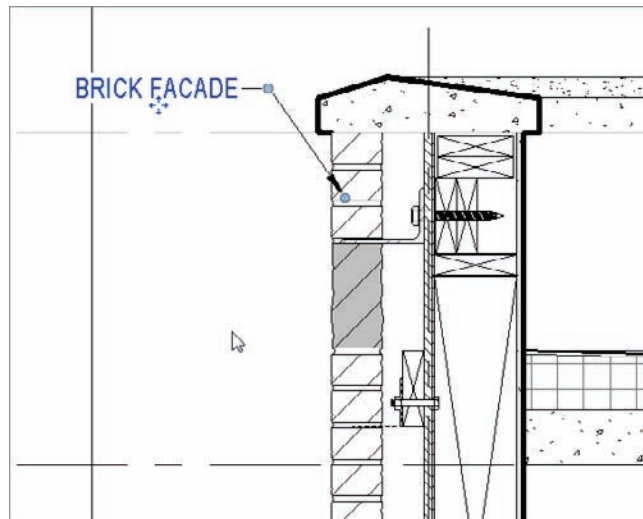

FIGURE 12.54 Placing the material tag
If you're confident, you can do this on your own. Your finished detail should look like the figure 12.54. If you would like some instruction, follow along:
8. When you place your cursor over the brick, the tag fills in. Place the tag as shown in Figure 12.54.